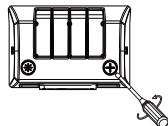

figure 11
Step 2: (Figure 11), then slide the switch up and down to adjust the power controller, CCT controller or photocell controller in your demand. (figure 12)